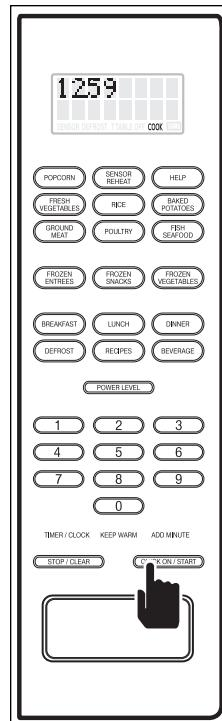

Figure 3-41.
3. Press the QUICK ON/START key to begin the Keep Warm Mode. The oven will energize and the display will flash the time as it counts down along with "KEEP WARM" (See Figure 3-41). At the end of Keep Warm Mode, "END" will flash on the display and the alarm will beep.